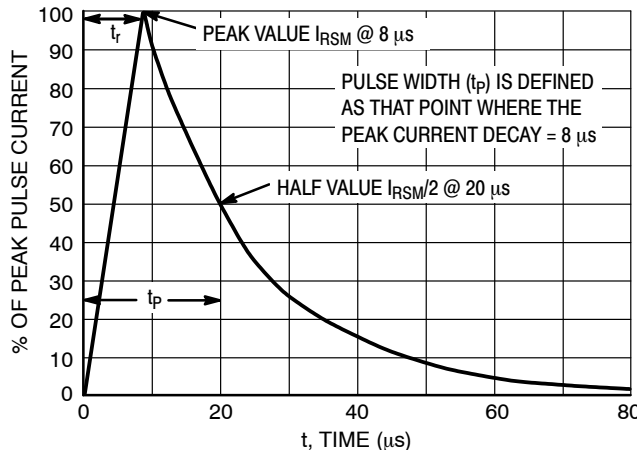

Figure 5. 8 x 20 μ s Pulse Waveform
1. Non-repetitive current pulse per Figure 5 (Pin 5 to Pin 2)
- Non-repetitive current pulse per Figure 5 (Pin 5 to Pin 2)
- Surge current waveform per Figure 5.